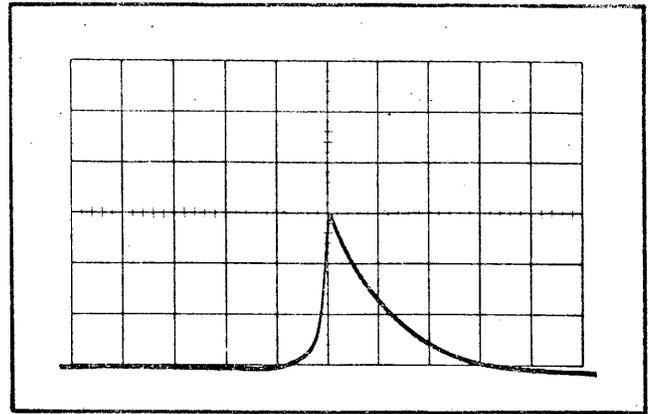

Fig. 6-21. Typical Video Filter integrated display of 200 MHz RF signal. Sweep rate 5 ms/cm.
e. Check—The video filter circuit should attenuate and distort the 200 MHz response. See Fig. 6-21.